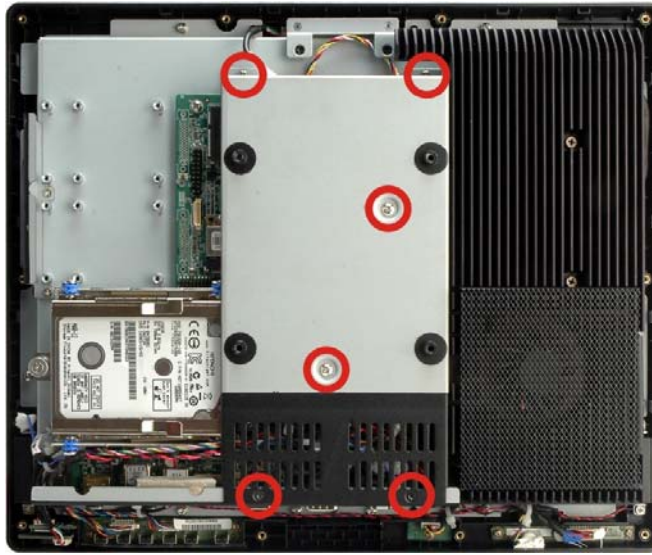

Figure 7-2: Internal Cover Retention Screws
Step 1: Remove the six (6) retention screws securing the internal aluminum cover to the chassis (**Figure 7-2**).